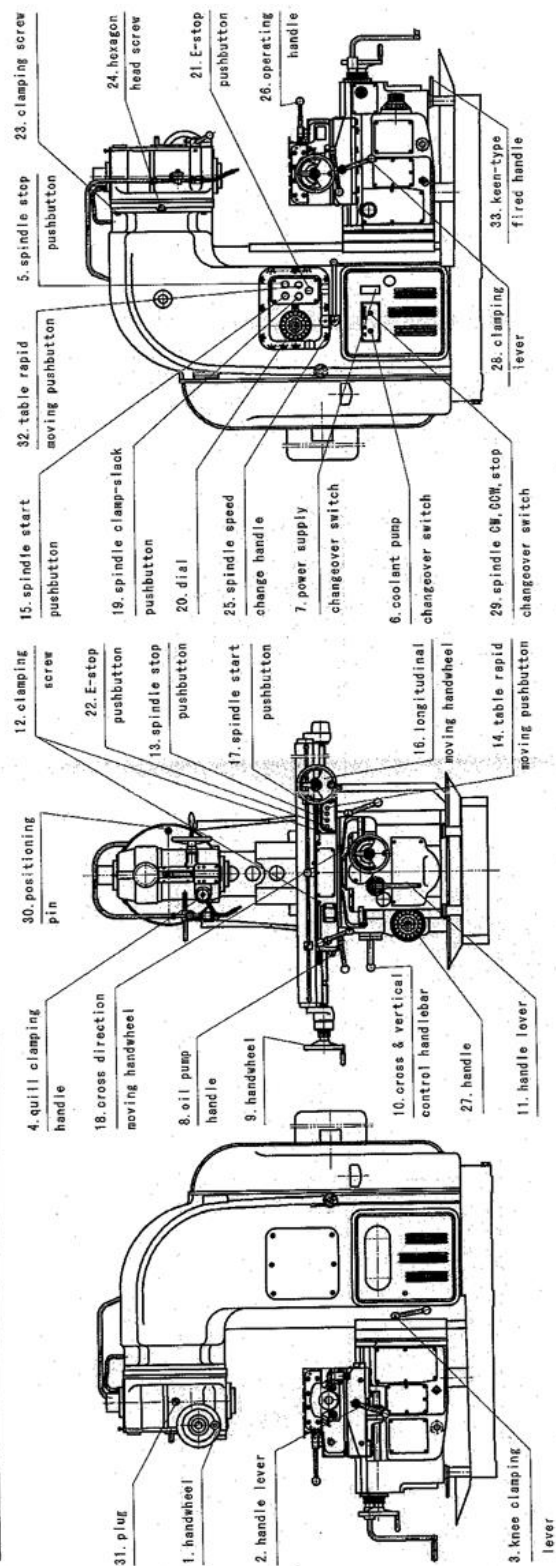

Fig 14
3.3.1 Longitudinal feed (see Fig. 14)
backward SQ4, then KM5 will attract, Pull down and forward SQ3, then KM4 will attract. Actual movement direction should accord with indicated direction, change phase sequence of power supply if actual movement direction does not accord with indicated direction.(see Fig.14)
3.3.3 Speed change of table feed (see Fig.14): Switch on travel switch SQ6 instantaneously during pulling handle (27) out quickly, choose target speed, then switch on travel switch SQ6 instantaneously during pushing back handle (27) quickly, connect KM4 to make motor M3 has actuation in order to easily mesh with gears.
Refer to Fig.14 about the position and function of each handle, pushbutton, switch. The operation construction of machine is convenient for operator.
1. Adjustment of vertical milling head angle of rotation. (see Fig.14)
2. Spindle lubrication (see Fig.14)